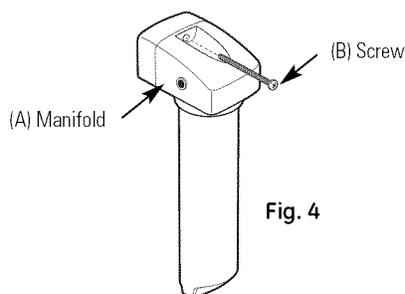

Fig. 4
*(Mounting Using the Screw Provided [Fig. 4])*
3. Use the screw (B) provided to mount through the screw hole in the center of the manifold (A). (Pre-drill a 1/16" pilot hole, if needed).